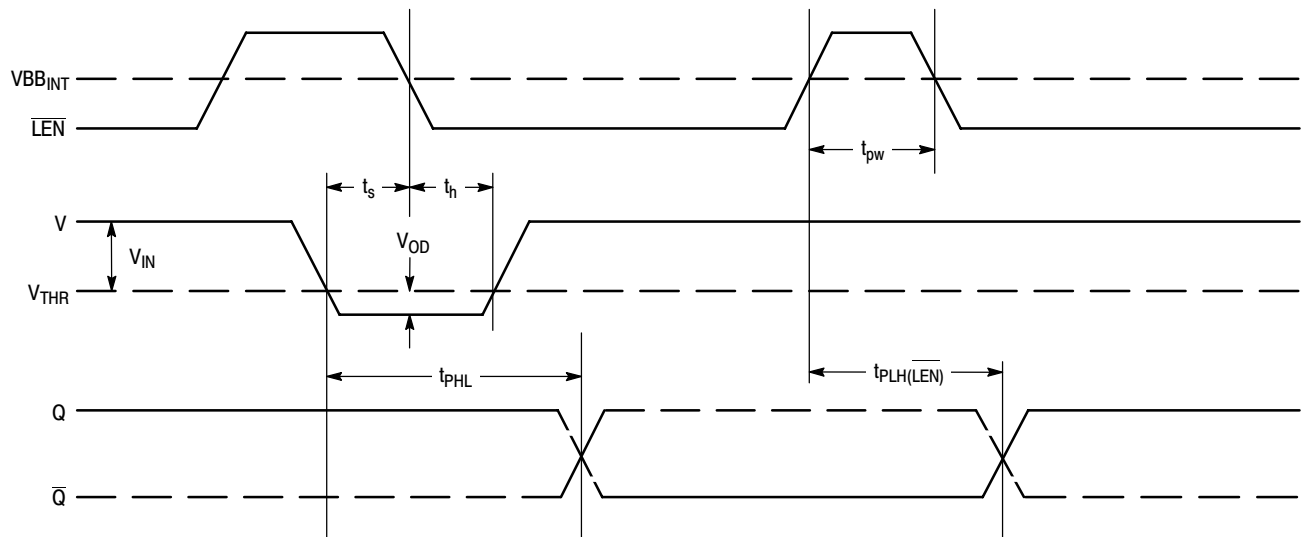

Figure 5. Input/Output Timing Diagram
12. Refer to Figure 5 and note that the input is at 2.5 V TTL levels with the input threshold range between the 20% and 80% points. The delay is measured from the crosspoint of the input signal and the threshold value to the crosspoint of the Q and \bar{Q} output signals.
The timing diagram (Figure 5.) is presented to illustrate the MC10E1652's compare and latch features. When the signal on the $\overline{\text{LEN}}$ pin is at a logic high level, the device is operating in the "compare mode," and the signal on the input arrives at the output after a nominal propagation delay (t_{PHL} , t_{PLH}). The input signal must be asserted for a time, t_s , prior to the negative going transition on $\overline{\text{LEN}}$ and held for a time, t_h , after the $\overline{\text{LEN}}$ transition. After time t_h , the latch is operating in the "latch mode," thus transitions on the input do not appear at the output. The device continues to operate in the "latch mode" until the latch is asserted once again. Moreover, the $\overline{\text{LEN}}$ pulse must meet the minimum pulse width (t_{pw}) requirement to effect the correct input-output relationship. Note that the $\overline{\text{LEN}}$ waveform in Figure 5. shows the $\overline{\text{LEN}}$ signal swinging around a reference labeled VBB_{INT} ; this waveform emphasizes the requirement that $\overline{\text{LEN}}$ follow typical ECL 10KH logic levels because